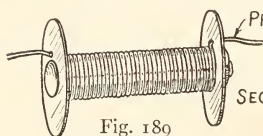

Fig. 189
**The Primary-Coil.** Pierce a hole through one cardboard end, stick the wire through it, and allow about 5 inches to project upon the outside; then commence winding the wire upon the core, placing each turn close to the preceding turn. When the opposite end of the bolt has been reached, wind back to the starting point, then work back to the other end again. There will be in the neighborhood of 175 turns in the three layers. Cut off the wire so there will be a 5-inch projection, and stick the projecting end through a hole in the cardboard end. This completes the primary-coil (Fig. 189).